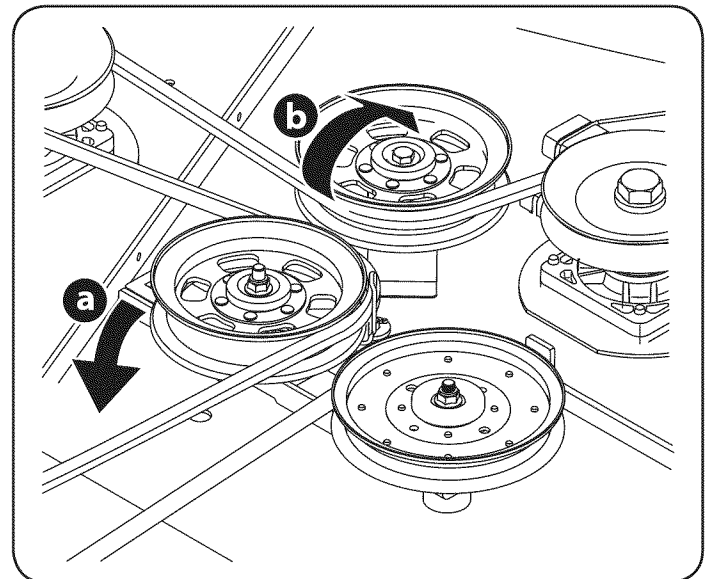

Figure 34
- b. Working from the middle of the tractor, pivot the idler bracket and movable idler pulley rearward away from the backside of the 'V' belt (a) just far enough to lift the belt up and over the idler pulley (b). See Figure 34.